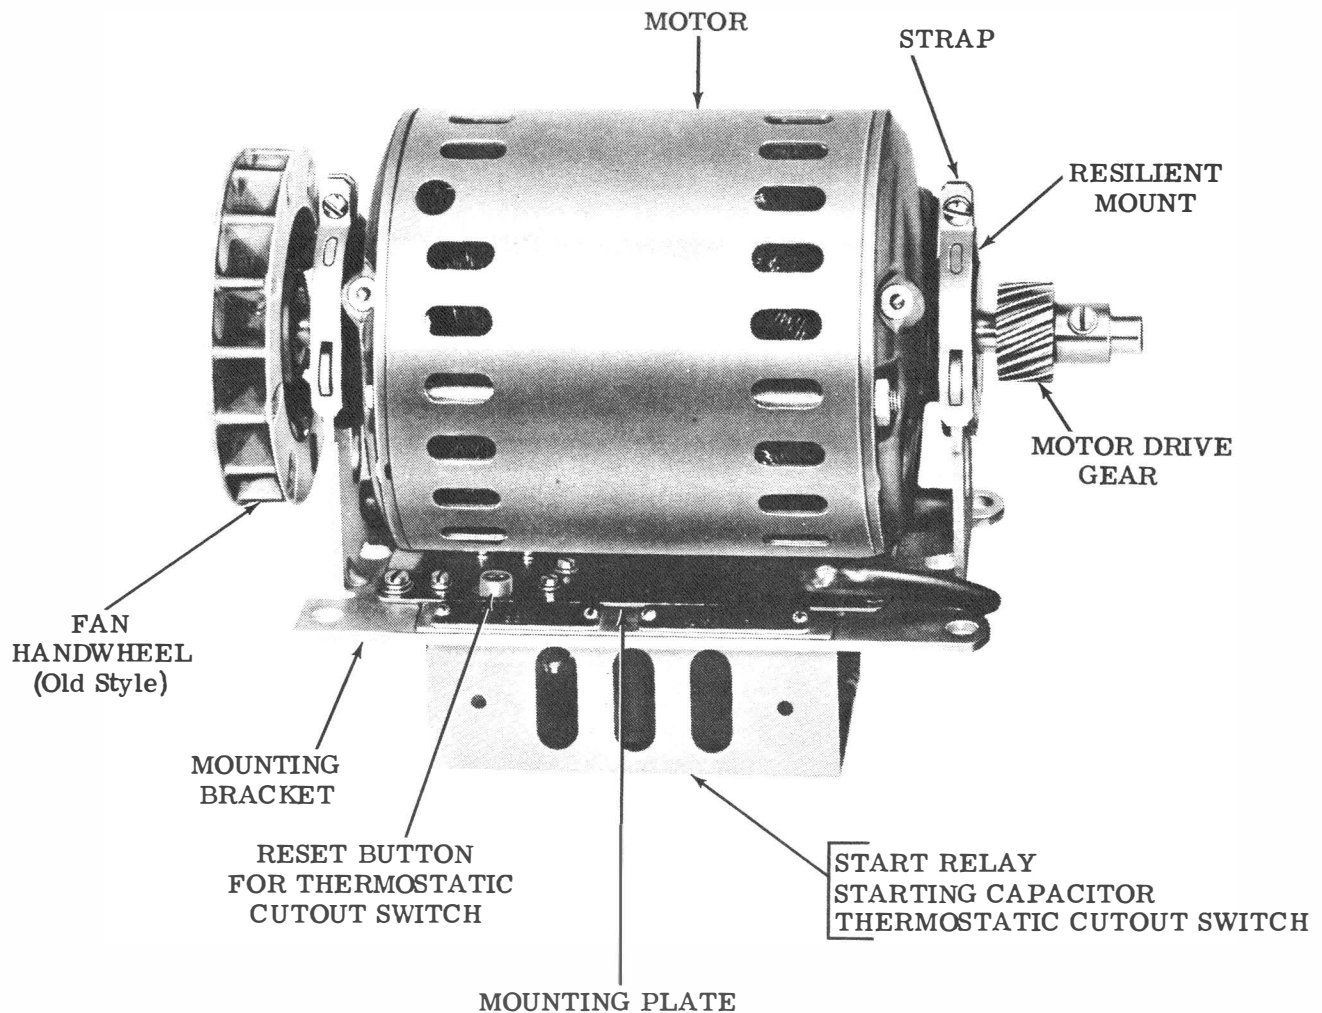
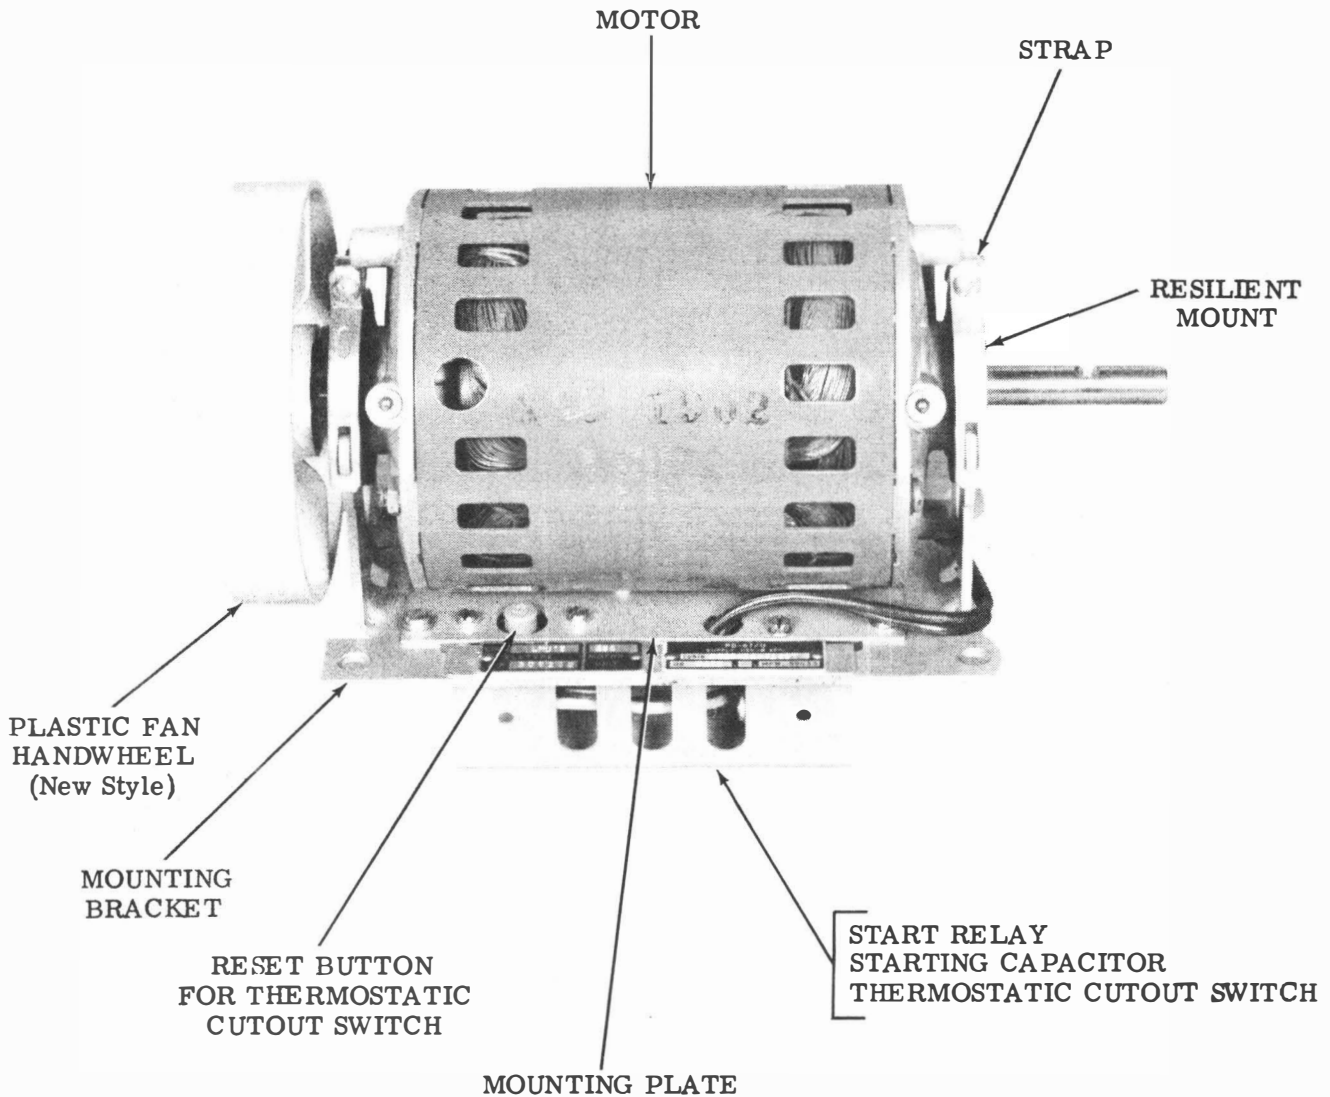

Figure 2 - Typical Standard or Heavy Duty Synchronous Motor Unit
Figure 3 - Typical Standard or Heavy Duty Synchronous Motor Unit With New-Style Plastic Handwheel
2.04 The standard and heavy duty synchronous motor units (Figure 2) consists of a two-pole wound stator and two end shields that support a ball bearing rotor. A combination handwheel and fan (new-style handwheel and fan is made of plastic — Figure 3) is mounted on the motor shaft, and two fans are mounted at each end of